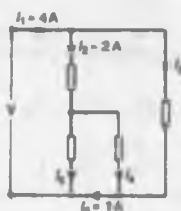

Figure 13.11
- 1 Find currents I_3 , I_4 and I_6 in Fig. 13.11